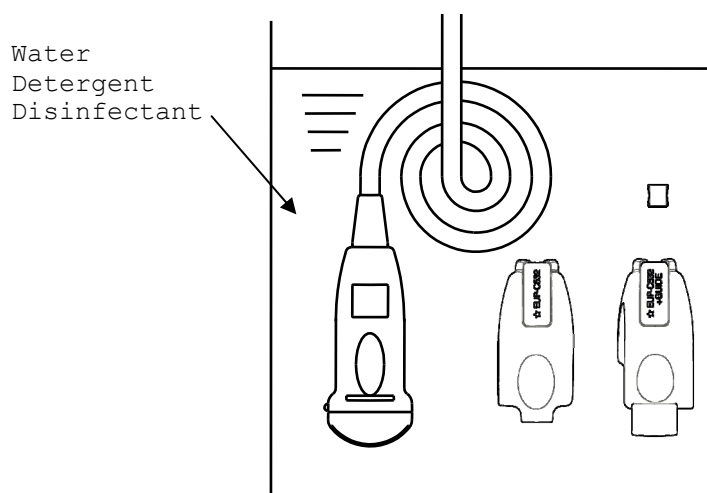

Fig.15 Immersion of the probe, the Magnetic sensor attachment and the Spacer for EZU-RV2S
- 2) Immerse the immersible part of the probe without connector into the diluted detergent solution (see Fig 15). Wipe the immersible part of the probe under the surface of the detergent solution with a soft cloth to remove all visible soil. Be sure that all grooves of the probe are implemented during the cleaning process.
- 5) Rinse the probe with running tap water for 1 minute. (alternatively: immerse the immersible part of the probe in a tray filled with deionized water/tap water (see Fig.15) for 5 min.)
- 4) Rinse the Magnetic sensor attachment and the Spacer for EZU-RV2S with running tap water for 1 minute. (alternatively: immerse them in a tray filled with deionized water/tap water (see Fig.15) for 5 min.)
- 3) Immerse the immersible part of the probe into the disinfectant (see Fig. 15). Set a clock to insure the recommended contact time which is 5 minutes.
- 4) Rinse the immersible part of the probe with deionized water for 1 minute. (alternatively: immerse the immersible part of the probe in a tray filled with deionized water (see Fig.15) for 5 min.)
- 2) Immerse the Magnetic sensor attachment and the Spacer for EZU-RV2S into the disinfectant (see Fig.15). Set a clock to insure the recommended contact time which is 5 minutes.
- 3) Rinse the Magnetic sensor attachment and the Spacer for EZU-RV2S with deionized water for 1 minute. (alternatively: immerse them in a tray filled with deionized water (see Fig.15) for 5 min.)